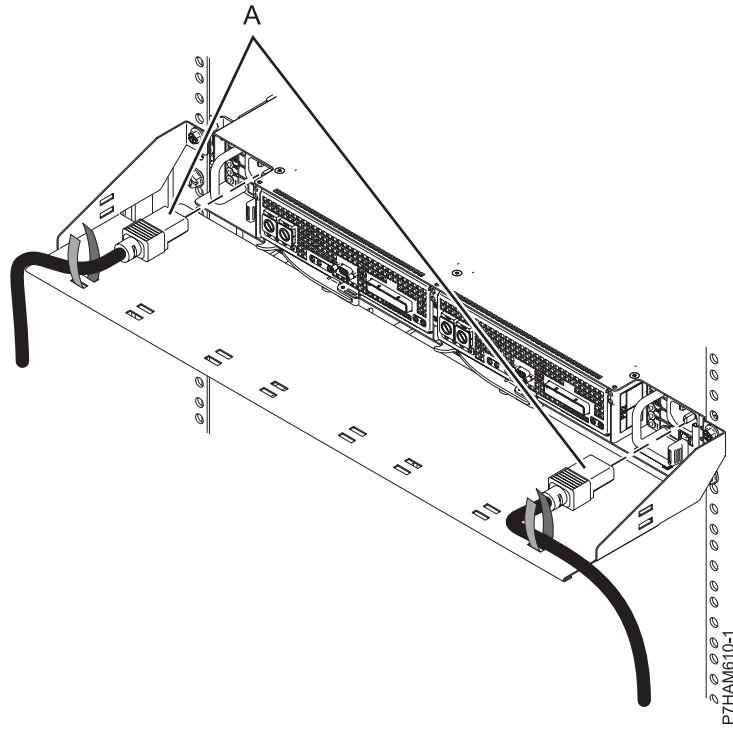

Figure 12. Installing the power cords
- f. At the rear of the rack, install the power cables (A), as shown in Figure 12 on page 11. Use Velcro ties to secure the power cords to the cable management bracket.